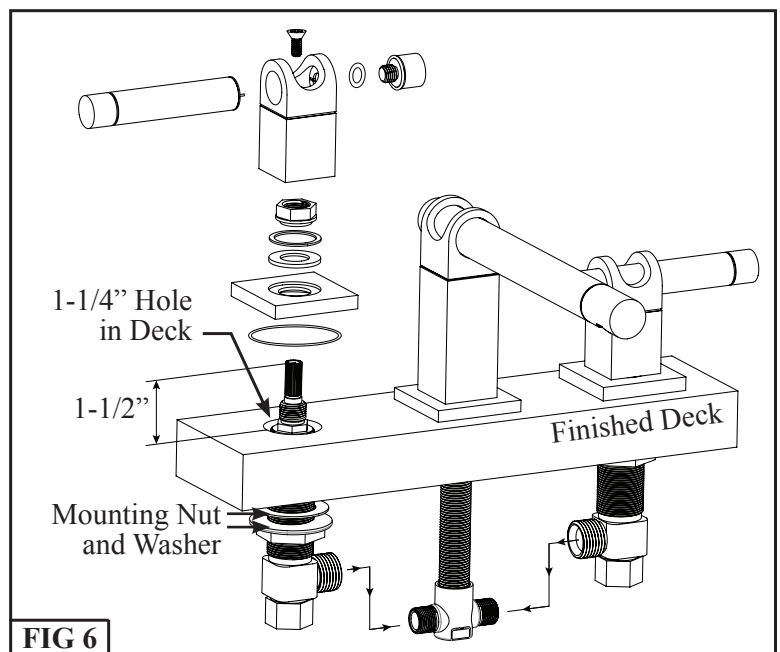

FIG 6
Step 5: Connect Valves to the 3-Way Tee using supplied Hoses. See **FIG 6**.